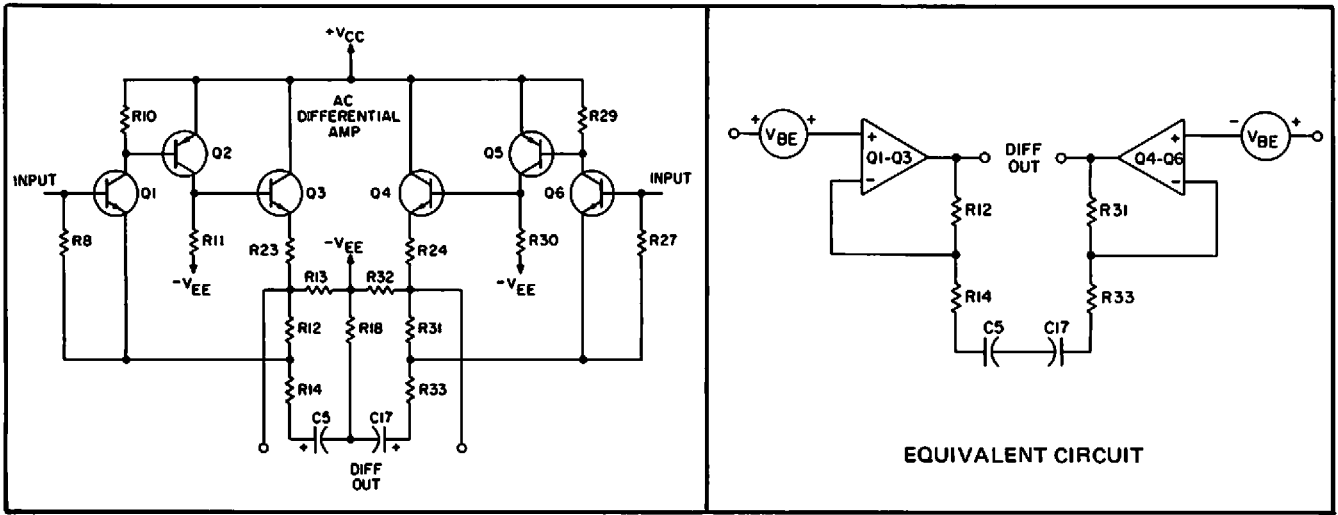

Figure 2-5
2.3.2.2 Differential Amplifier (Fig. 2-5)